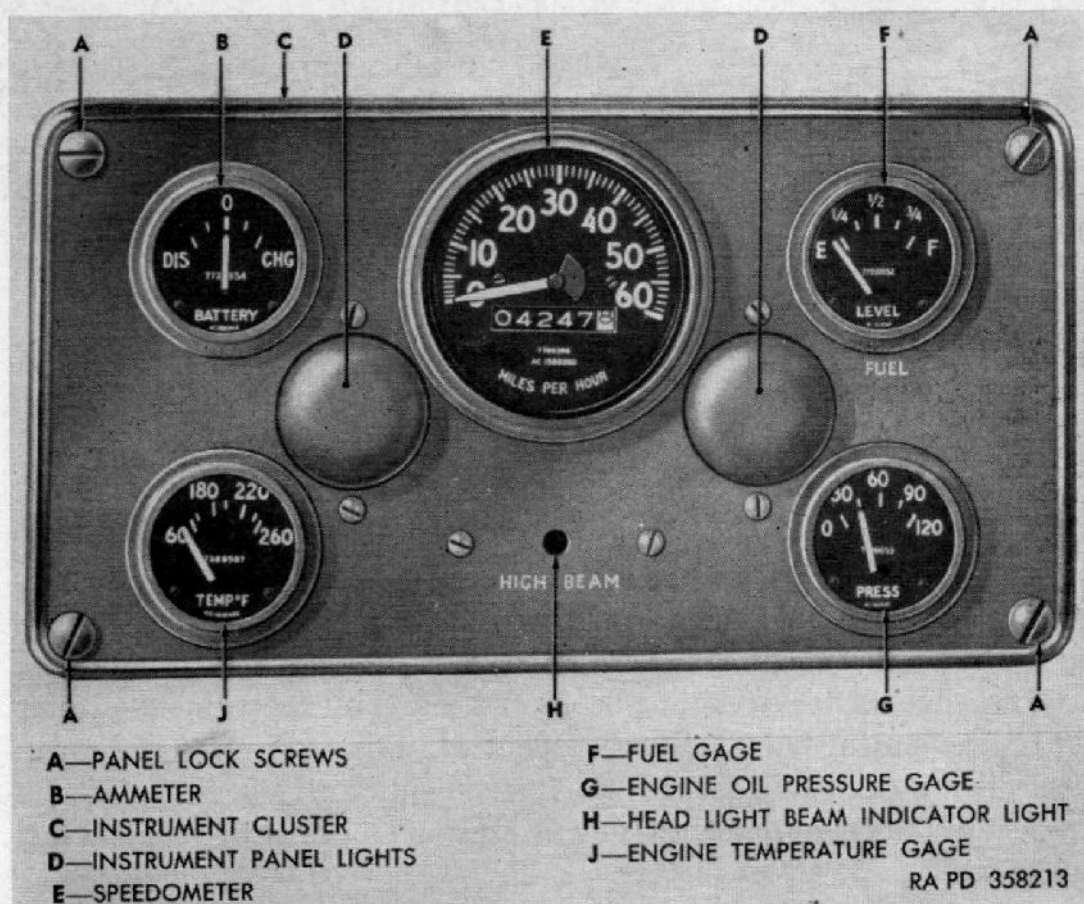
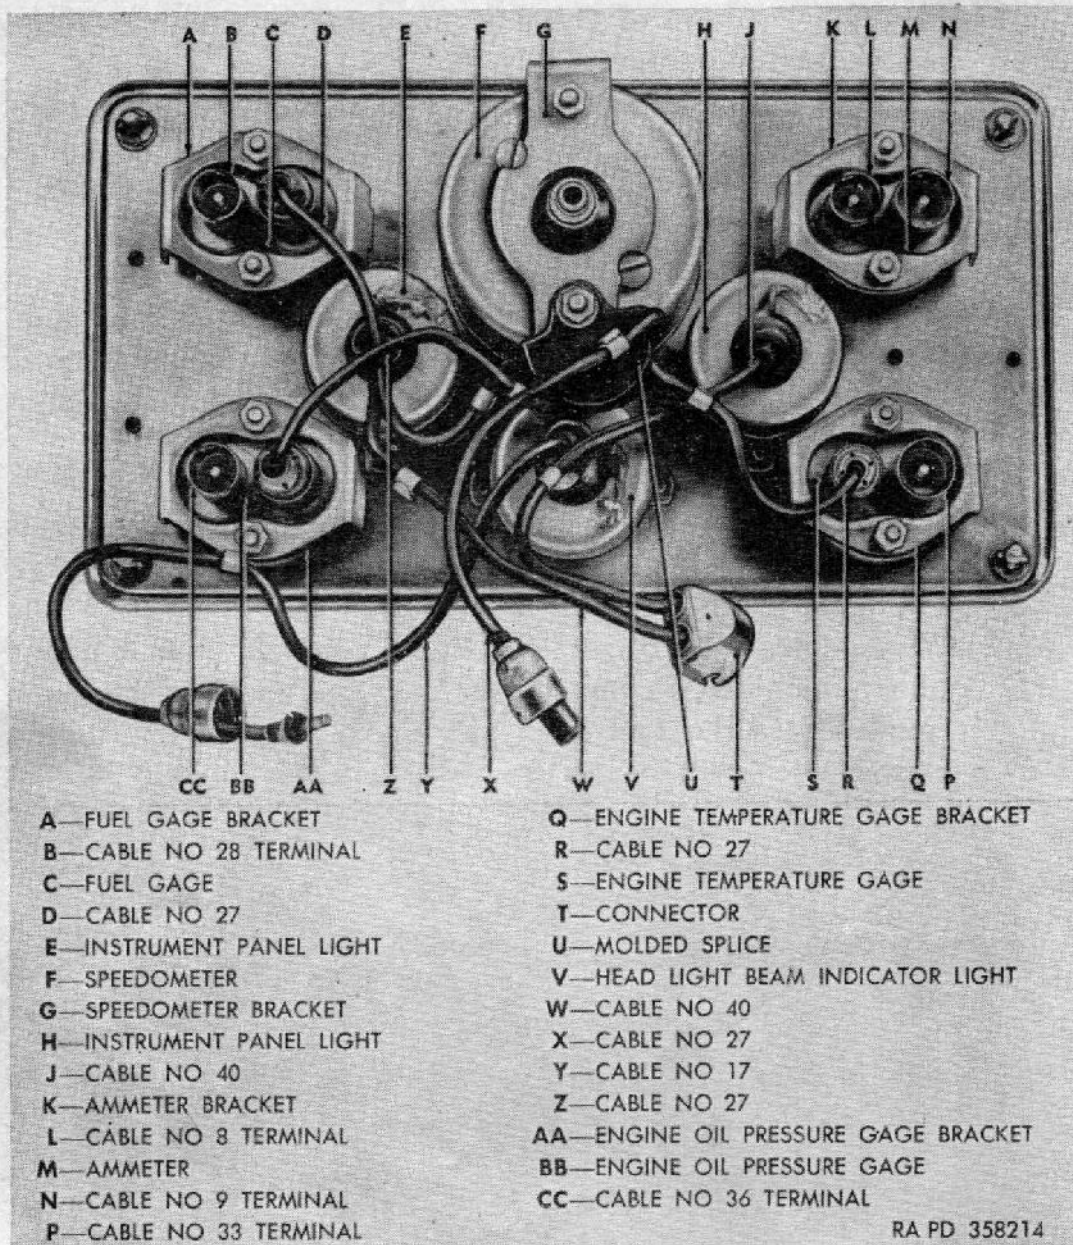

Figure 88. Instrument cluster—front view.
Figure 89. Instrument cluster—rear view.
*a. Instrument Cluster (C, fig. 88).* The instrument cluster (J, fig. 6) is located in the instrument panel and contains the speedometer, ammeter, fuel gage, engine temperature gage, engine oil pressure gage, two instrument panel lights, and the headlight beam indicator light.
- (1) *Engine temperature gage sending unit* (fig. 93). This sending unit is mounted on the right side of the cylinder head and is electrically connected to the engine temperature gage (J, fig. 88) in the instrument cluster.
- (2) *Engine oil pressure gage sending unit* (fig. 93). This sending unit is mounted on the right side of the cylinder head and is electrically connected to the engine oil pressure gage (C, fig. 88) in the instrument cluster.
- (3) *Fuel gage sending unit* (fig. 53). The fuel gage sending unit is mounted on top of the fuel tank and is electrically connected to the fuel gage (F, fig. 88) in the instrument cluster.
*a. Removal.* Instrument cluster is held in position on the instrument panel by four panel lock screws (A, fig. 88) located in each corner of the instrument cluster. Release these panel lock screws by turning counterclockwise one-half turn and pull instrument cluster out of instrument panel. Replacement of individual units in instrument cluster can be made with the instrument cluster in this position. To remove the complete instrument cluster assembly, disconnect all cables from units at connectors.
cables at connectors. Refer to figure 89 or to wiring diagram (fig. 90) to identify number on each cable and unit to which it connects. Place instrument cluster in position in instrument panel and secure by turning panel lock screws (A, fig. 88) one-half turn clockwise.
(M, fig. 89)
(C, fig. 89)
(S, fig. 89)
(BB, fig. 89)
(F, fig. 89)
(V, fig. 89)
(E, fig. 89)